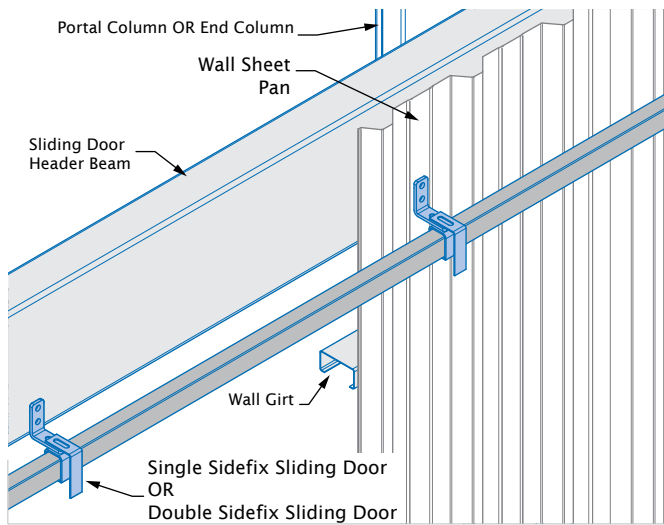

Figure 53
**Note:** If the sliding door travels over a clad wall, the wall sheets need to be installed before the sidefix support brackets (Figure 53). The wall sheets will need to have holes drilled to match the holes pre-drilled in the header beam for the sidefix support bracket as specified in section "Sliding Door - Header Beam Preparation". The sidefix support brackets must be fixed through the pan of the wall sheets (Figure 53).